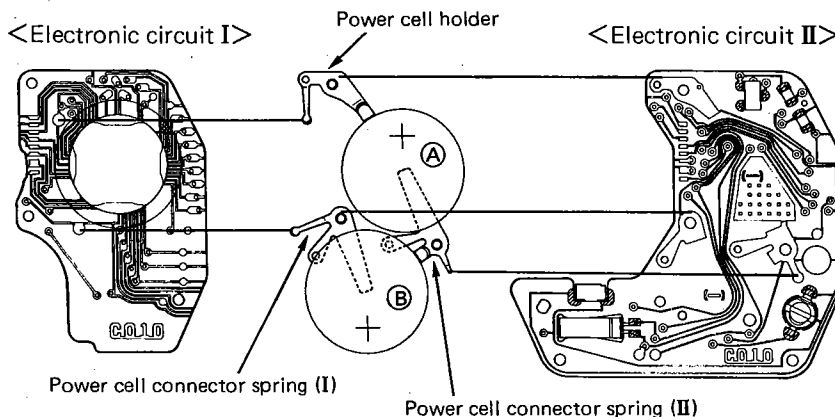

Fig. 8
The power cell connector spring (I), (II) and the power cell holder connect power cells (A) and (B) in series, as shown in Fig. 8, and apply voltage to the electronic circuits I and II.